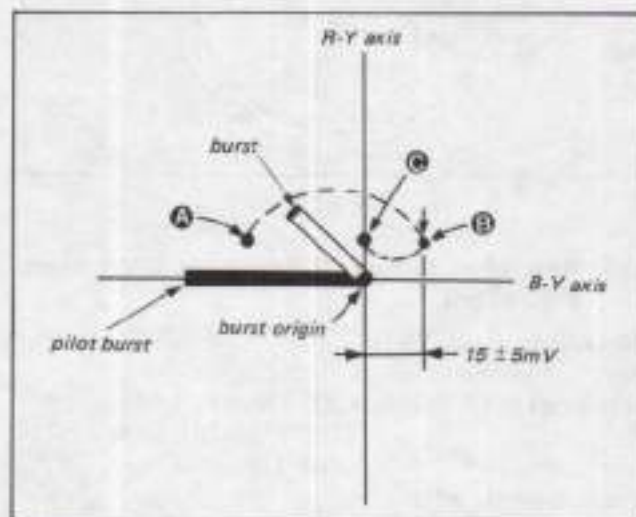

Fig. 2-27
- 1) Turn PM-2 board RV711 (RG) and RV712 (BG) fully counterclockwise (Ⓐ).
- 3) Put into recording mode and confirm that the white luminescent spot is to the left of the R-Y axis. (Fig. 2-27 Ⓐ)
- 4) Move the white luminescent spot to a position $15 \pm 5mV$ to the right of the R-Y axis with PM-2 board RV712 (BG). (Fig. 2-27 Ⓑ)
- 6) Set to recording mode and confirm that the white luminescent spot is on the R-Y axis. (Fig. 2-27 Ⓒ)